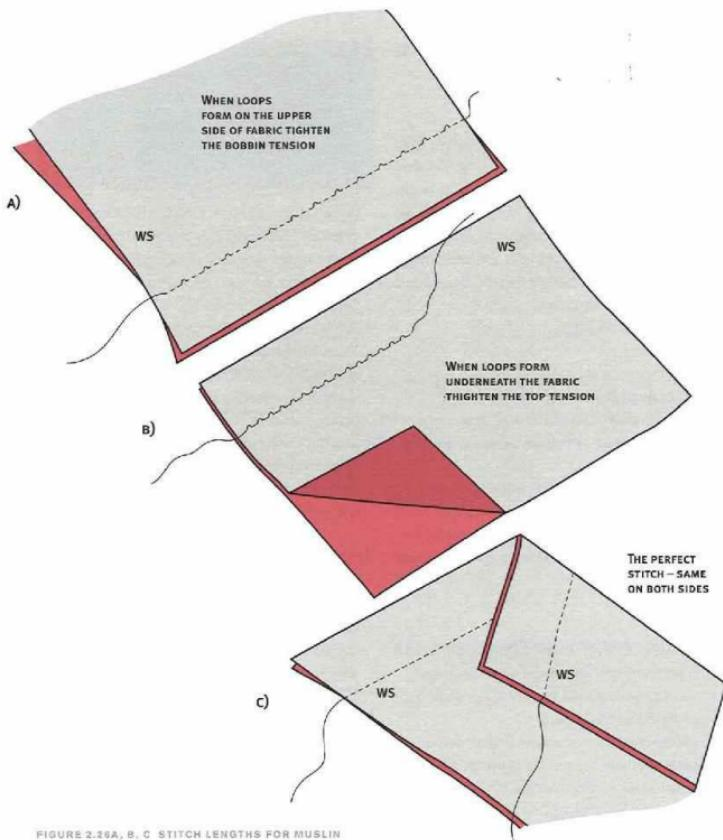

FIGURE 2.25A, B, C STITCH LENGTHS FOR MUSLIN
- Practice the different stitch lengths as shown in Figure 2.25a–c.